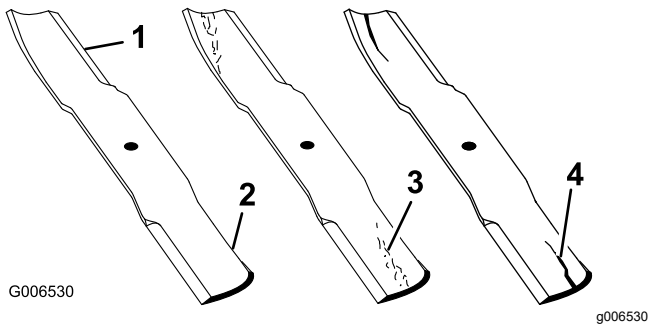

Figure 57
1. Inspect the cutting edges (Figure 57).
4. If you notice any cracks, wear, or a slot forming in this area, immediately install a new blade (Figure 57).